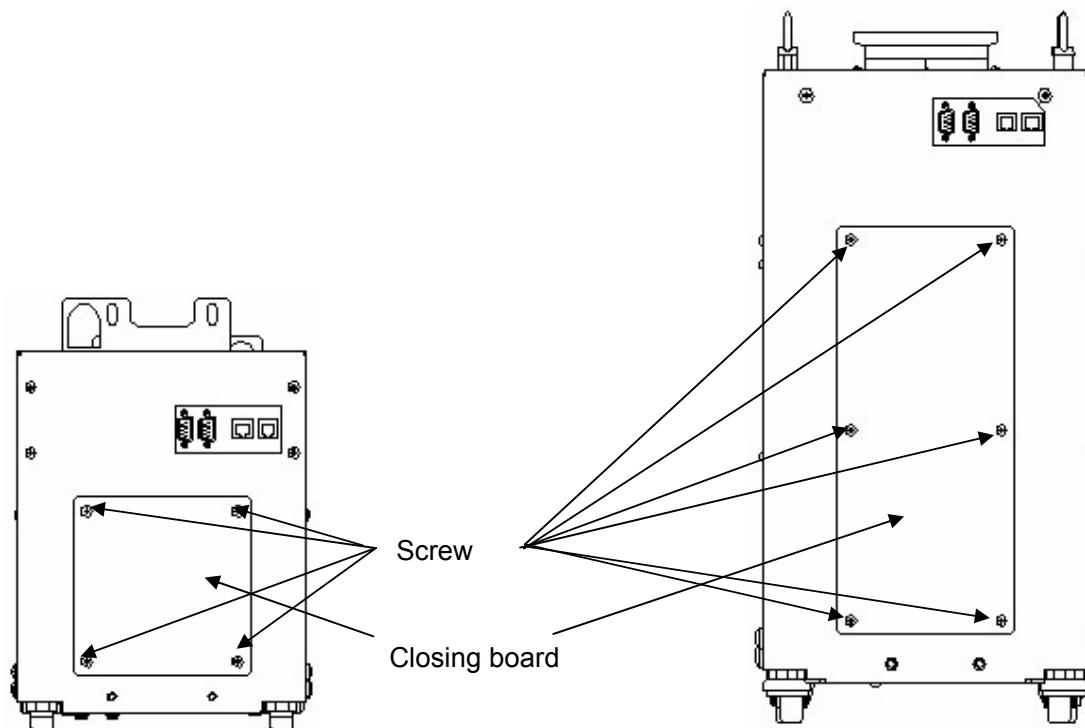

Fig. 7.1 How to remove closing board
- (1) Stop the pump and remove the closing board (LCD connector side) on the pump. (See Figs. 7.1)